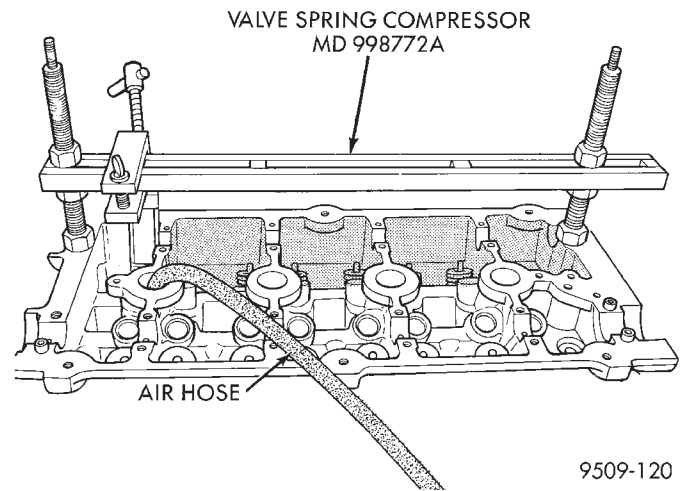

Fig. 43 Valve Spring—Removal/Installation
(1) Remove camshafts as previously outlined in this section.
(2) Rotate crankshaft until piston is at TDC on compression.
(3) With air hose attached to adapter tool installed in spark plug hole, apply 90-120 psi air pressure.
(4) Using Special Tool MD-998772-A with adapter 6779 (Fig. 43) compress valve springs and remove valve locks.
(5) Remove valve spring.
(6) Remove valve stem seal by a using valve stem seal tool.
(2) Install valve spring and retainer, use Special Tool MD-998772-A with adapter 6779 to compress valve springs only enough to install locks (Fig. 43). Correct alignment of tool is necessary to avoid nicking valve stems.
(3) Remove air hose and install spark plugs.
(4) Install camshafts as previously outlined in this section.
(5) Install cylinder head cover as previously outlined in this section.